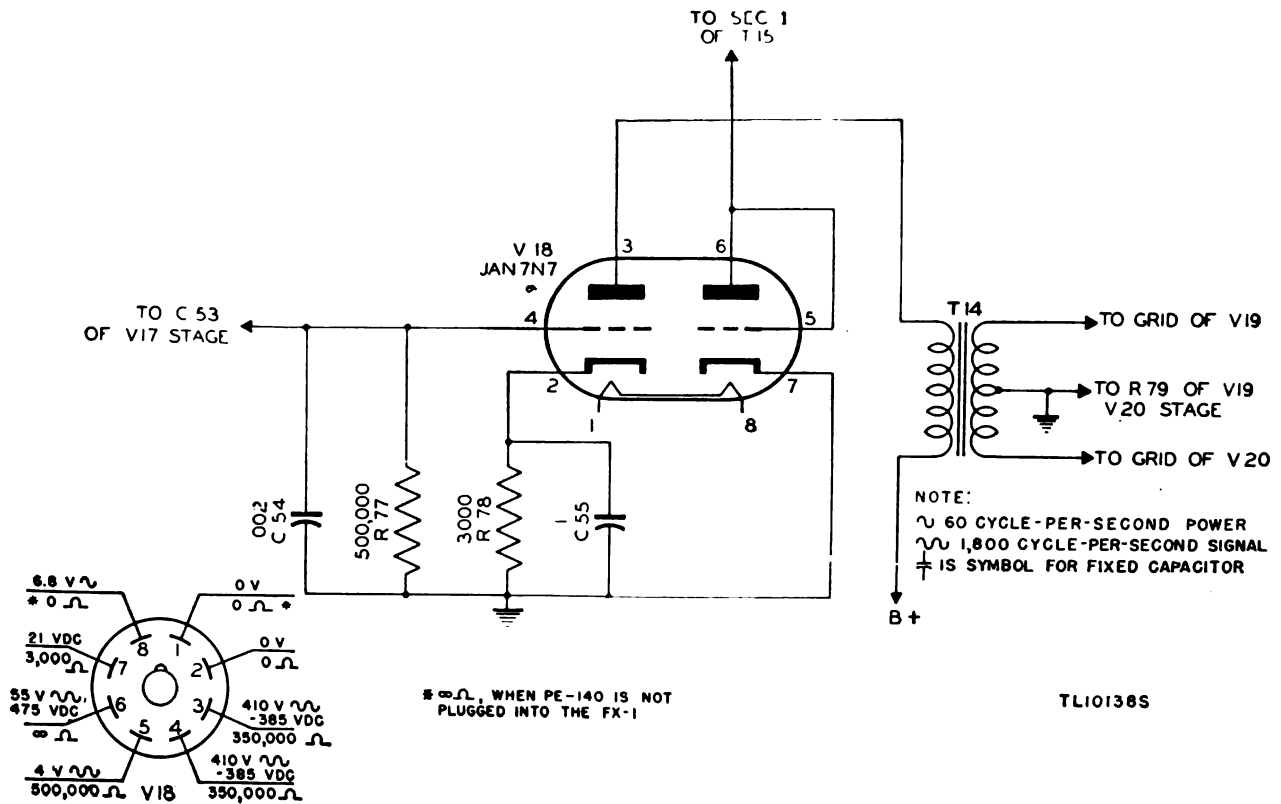

Figure 33. Exciter lamp supply, driver and rectifier stage.
**68. Exciter Lamp Supply, Driver and Rectifier Stage** (fig. 33)